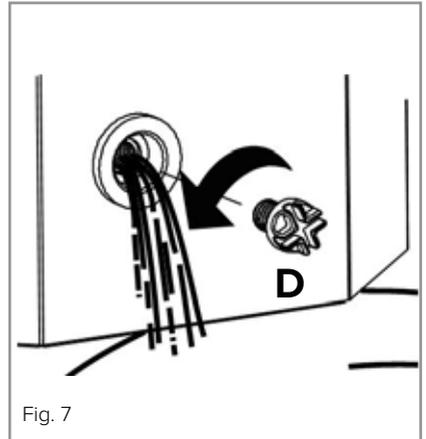

Fig. 7
Open the drain on the front of the unit (D in Fig. 7) using a small coin or similar. Drain the tank fully. Replace the drain cover (D) and tighten once the tank has emptied.
Prise and lift the tank lid (Fig. 11) and rinse out the tank with clean cold water. Drain via the front drain if necessary (Step 4/Fig. 7) but remember to replace the drain afterwards.